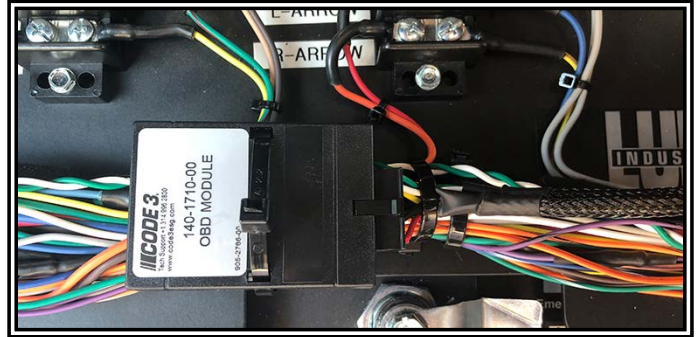

Figure 4
Step 2. Connect the OBDII Device to the 14 Pin connector on the OBDII Harness. Secure the device away from moving parts. See FIGURE 4.